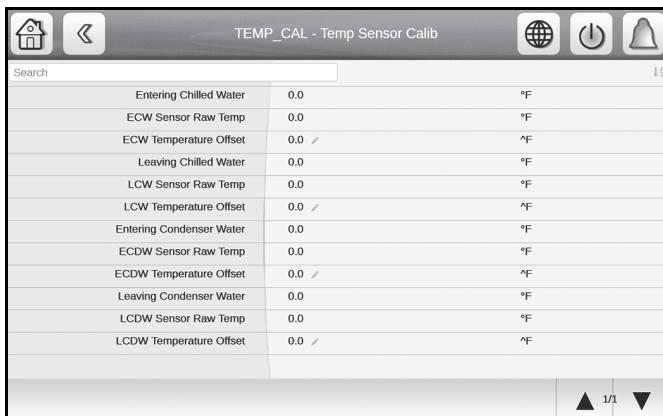

Fig. 37 — Temp Sensor Calib Screen
5. In the Temp Sensor Calib screen, enter the temperature offset for the appropriate sensor as calculated in Step 4. See Fig. 37.